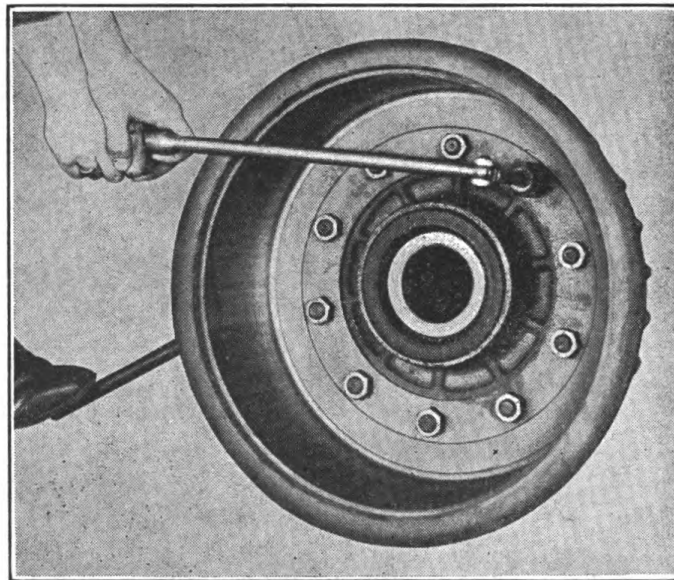

FIGURE 31. DRUM—REMOVAL.
- (1) Remove wheel and hub assembly.
- (2) Brake drums are secured to hub flange by six bolts. Remove inner and outer tire and wheel assembly.
- (3) Remove the six bolts, nuts and lockwashers and lift drum off hub pilot (Fig. 31).